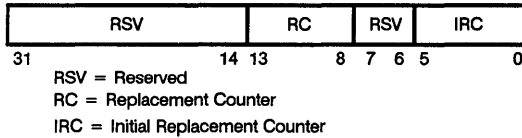

Figure 10. TLB Replacement Control Register
The TRCR contains the Replacement Counter (RC) and Initial Replacement Counter (IRC) fields as shown in Figure 10. These fields are used in order to support random replacement and to support locking capabilities of the TLB. On power-on reset, both the RC and IRC fields are initialized to zero.